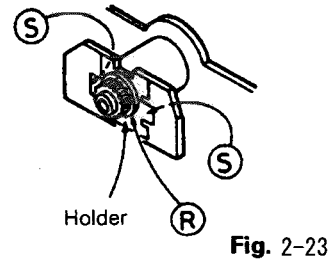

Fig. 2-23
■ **Head replacement** (See Fig. 2-23)
1. Remove the head gear (R).
2. Remove the pawls (S) on both sides of the holder.